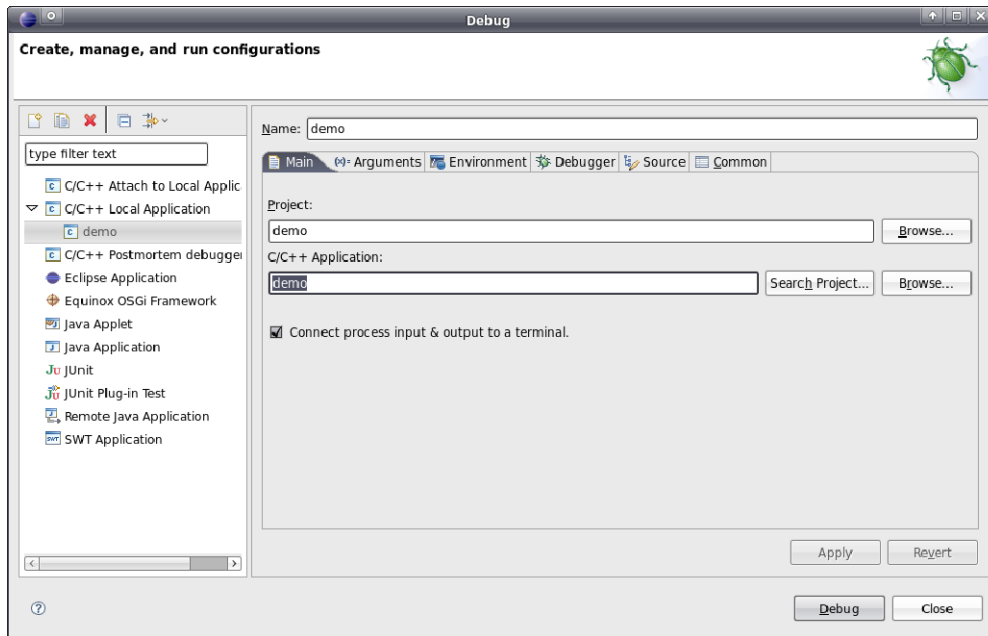

Figure 53: Determining the application that is to be debugged
The configuration of the Debugger in the IDE is only necessary once upon first call. The configuration takes place within "Eclipse" via menu item "**Run -> Debug...**". Thus, a configuration dialog opens as shown in Figure 53. Hence, follow the steps listed below:
2.1 Determining the program that is to be executed in the Debugger (see Figure 53)